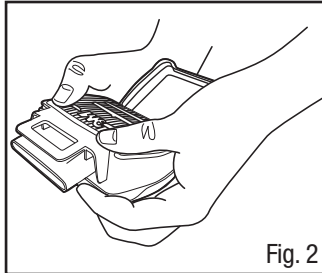

Fig. 2
2. Align the larger half of the retainer with the back (flat side) of the cartridge. Using both hands, press the retainer onto the cartridge, ensuring you press on all four corners of the cartridge and filter retainer (Fig. 2). The filter retainer has touchpoint indicators on each corner. You should hear the retainer click into place.